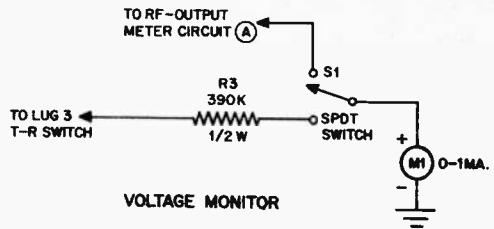

Fig. 4—Power-supply voltage-monitoring circuit requires S1 be added to the circuit in Fig. 3.
• **Power-Supply Voltage Monitoring.** Since power-supply voltage is an important indication of proper operation, add a switch and resistor (Fig. 4) to the previously installed circuit to monitor power-supply voltage in both the transmit and receive modes. The actual voltage is not really important, but a radical voltage change is a clue to trouble. Normally S1 is left in the voltage-monitor position. For tune-up, set S1 to the RF output position.